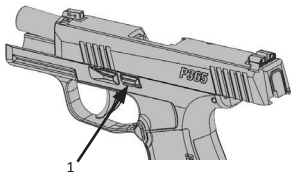

Figure 1
2. Retract the slide and push up on slide catch lever to lock slide to the rear (Figure 1, Item 1).